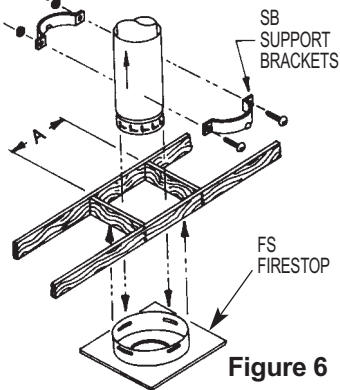

Figure 6
2. Frame in an opening providing proper clearance to Type B Gas Vent. See **Figure 6** and **Table 2**.
5. If used as a support, install Support Bracket (SB) as shown in **Figure 6**. Clamp bracket securely to pipe section, using the pair of bolts and nuts provided.